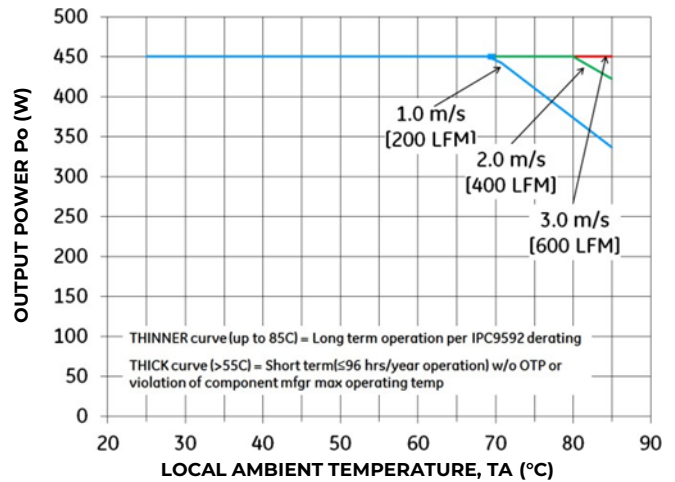

Figure 15. Output Power Derating for the QBVS046A9 S9R6-H Base Plate Option in the Transverse Orientation; Airflow Direction from Vin(-) to Vin(+); Vin = 45V
Increased airflow over the module enhances the heat transfer via convection. The thermal derating of figure 15 - 20 shows the maximum output current that can be delivered by each module in the indicated orientation without exceeding the maximum Tref temperature versus local ambient temperature (TA) for several air flow conditions.